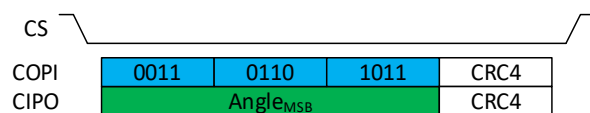

Figure 17: 16 clock cycles Read Angle
- It is possible to read a 12-bit Angle and the CRC4 with 16 SPI clock cycles (Figure 17)